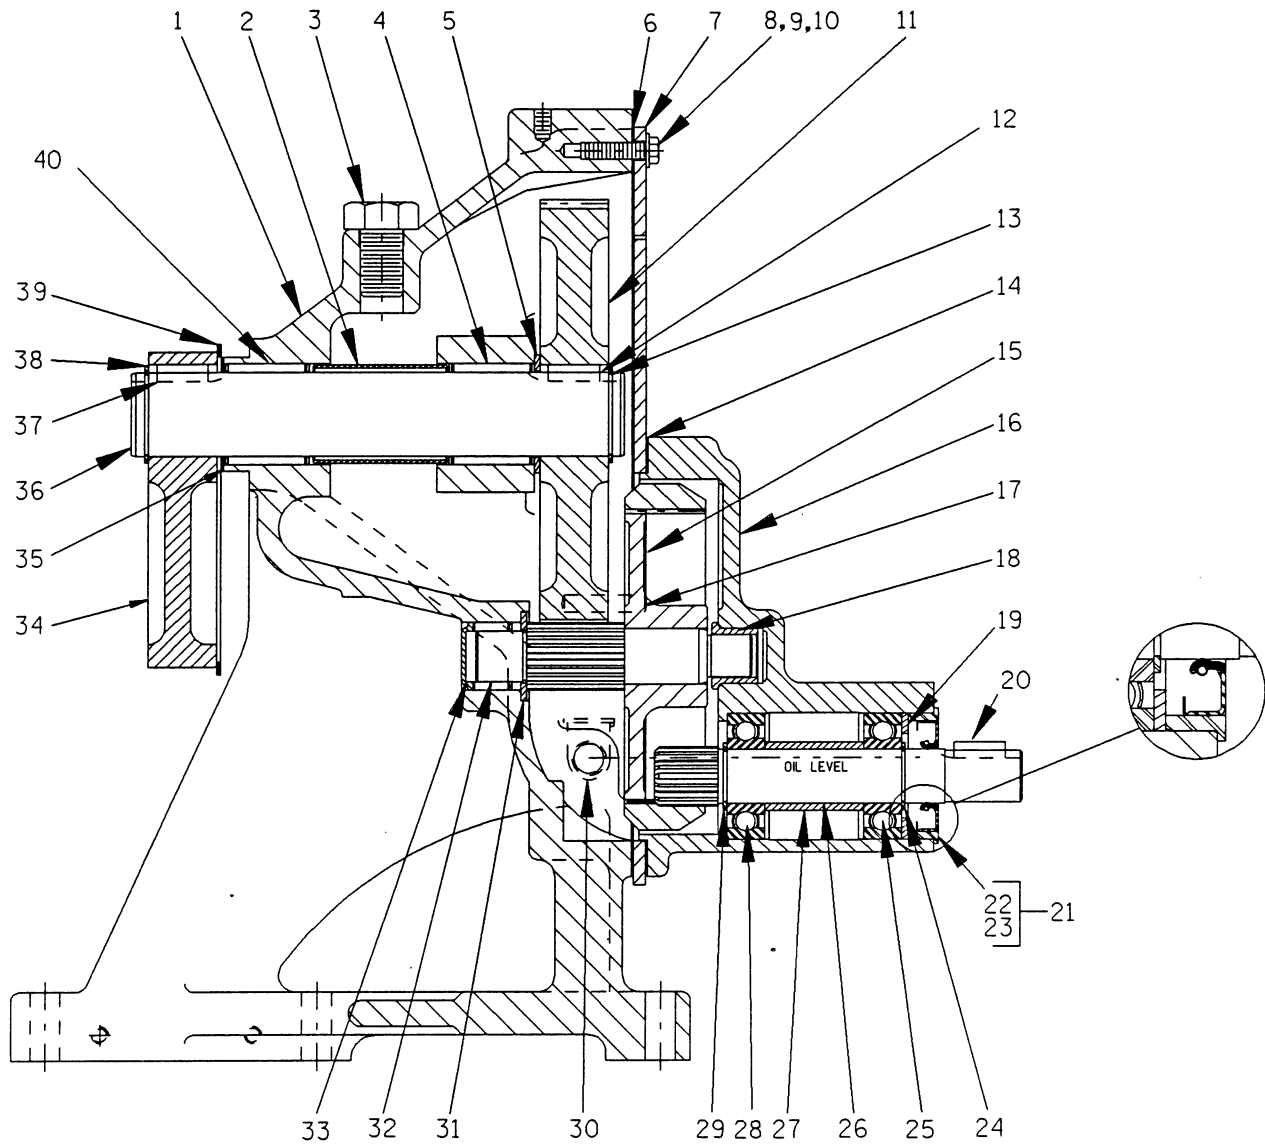

Figure 4. 44161-008 Gearbox Assembly
Removing the retaining ring (6) and slide the plunger rod assembly (26) off the eccentric cam drive shaft (36, Figure 4).
the coupling (12) and separate the halves. Remove the gearbox assembly, and slide the coupling half off the pinion drive shaft (26, Figure 4).
(Figure 4)